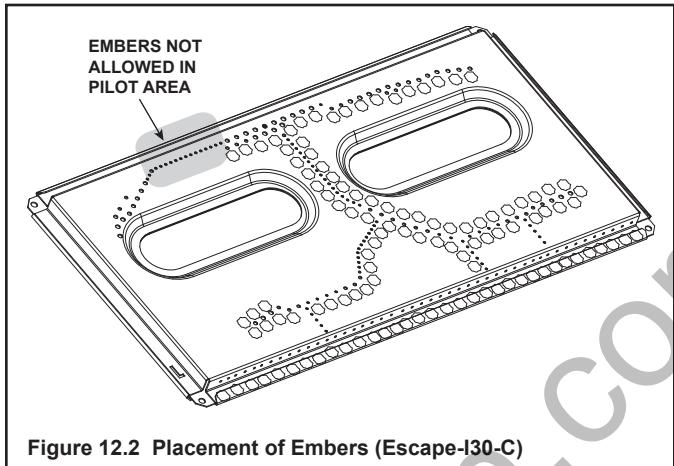
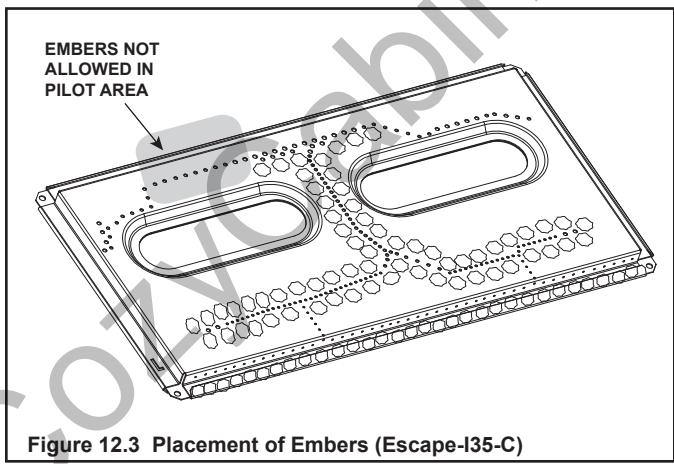

Figure 12.2 Placement of Embers (Escape-I30-C)
Figure 12.3 Placement of Embers (Escape-I35-C)
- Place dime-size pieces of Glowing Embers® just in front of the port trail, but not on or in between the ports. See Figure 12.2 (Escape-I30-C) or Figure 12.3 (Escape-I35-C). Care should be taken so that the ports are not covered. Failure to follow this procedure will likely cause lighting and sooting problems.
- The glass assembly fastens to the fireplace in four places. The fastening mechanisms are spring-loaded glass latches. An example of the glass latch is shown in Figure 12.2.
Air shutter settings should be adjusted by a qualified service technician at the time of installation. The air shutter is set at the factory for minimum vertical vent run. Adjust air shutter for longer vertical runs. See Figure 12.3.